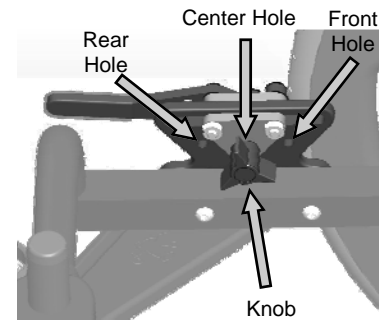

Fig. 18
- To change position of the wheel lock, remove the knob (fig. 18). Move the wheel lock forward or rearward to match the wheel position. Align the threaded hole for the thumb screw (fig 18) and re-install knob and tighten.